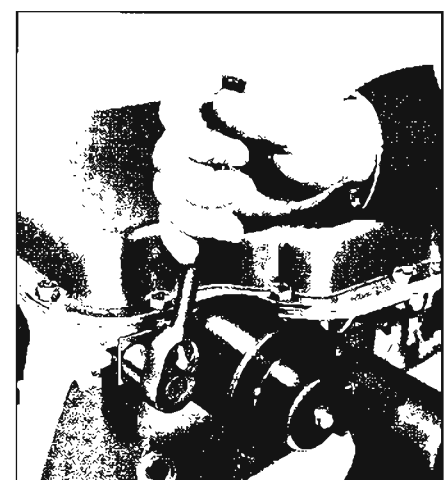

Figure 5-501
4. Remove modulator assembly attaching screw and retainer. See Figure 5-501.